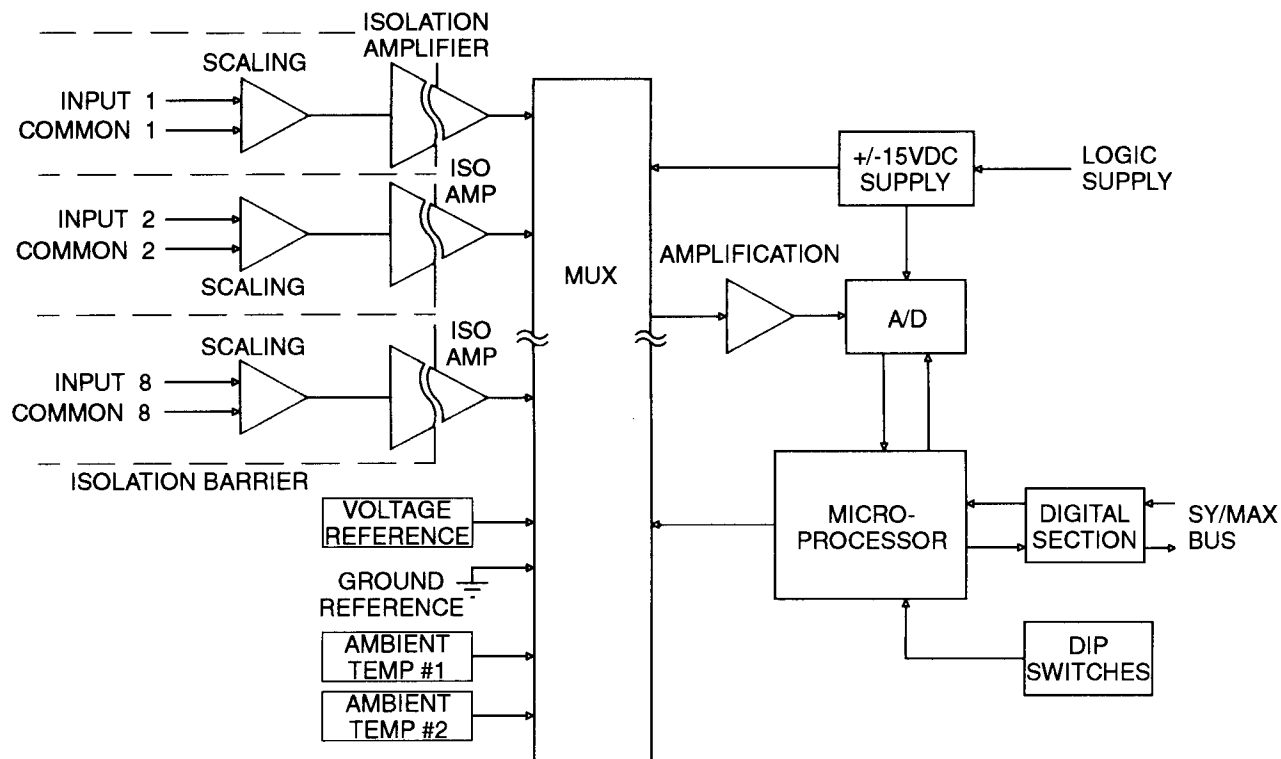

Figure 7.1 - Block Diagram
This section describes the various RIM126 subsystems. Refer to the block diagram on page 7-2 (Figure 7.1) while reading this section.
*A diagram depicting all these subsystems appears in Figure 7.1.*